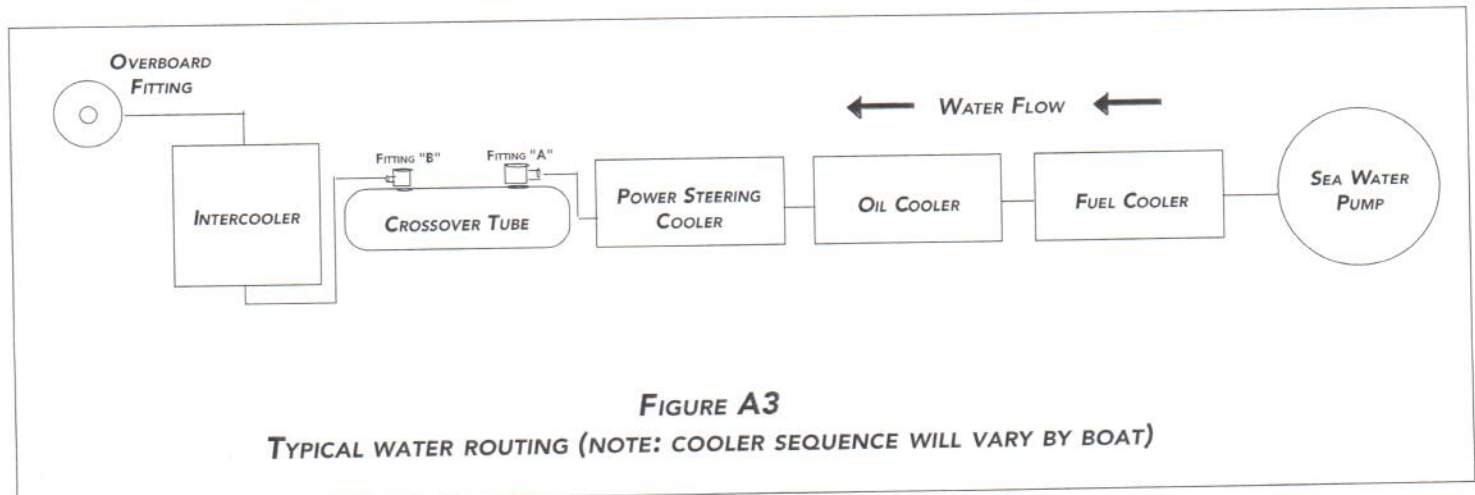

FIGURE A3
7. Install supplied fuel cooler in the 1 1/2" water line directly after seawater pump. Note: the cooler can be mounted in either direction. See figure A3.